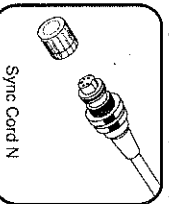

Fig. 4
- Whenever a sync cord is not connected to a camera, housing and/or strobe, protect the ends of the cord and bulkhead connectors with their plastic protective caps. (Fig. 4)